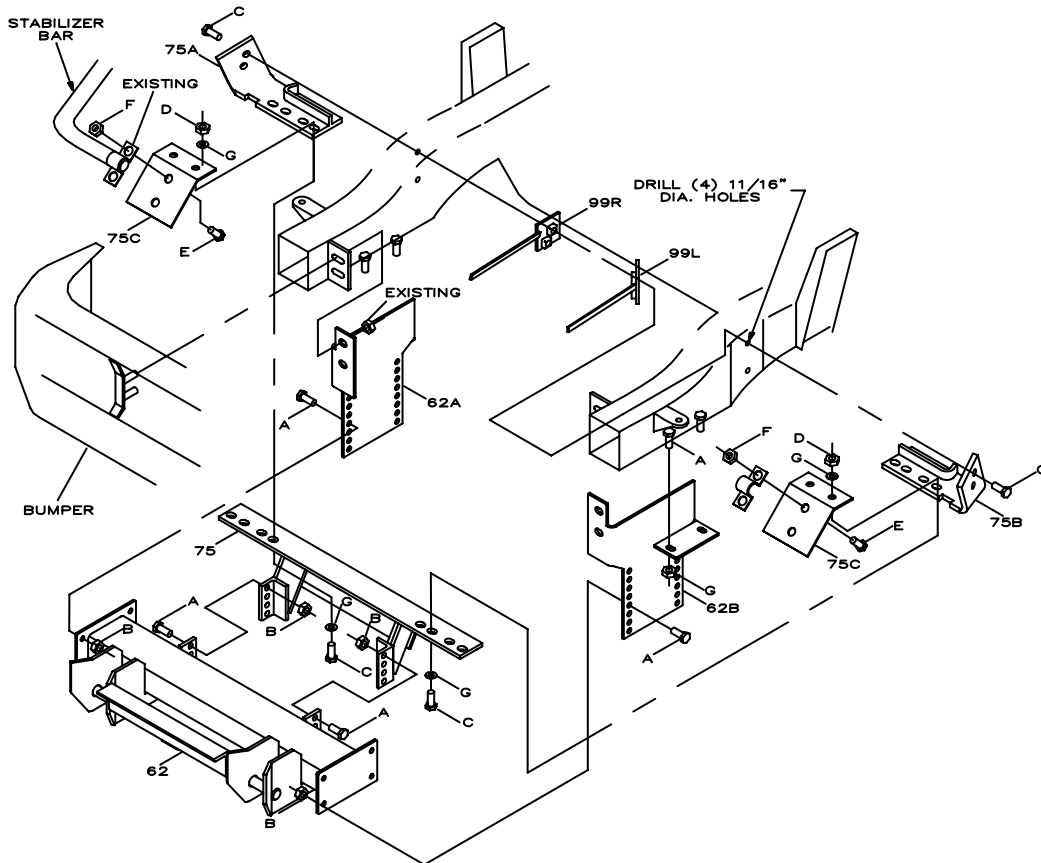

Figure 1
1. Remove the front bumper. If the truck is equipped with a front stabilizer bar, remove the stabilizer frame mounts, allowing the stabilizer bar to hang freely. The stabilizer bar will be reattached later. Position the push beam support plates (Ref. 62A and 62B, Fig. 1) to the front frame rails of the truck. Using the ½" – 13 x 1- ½" bolts, ½" self locking nuts, and ½" flat washers provided, bolt the PUSH BEAM SUPPORT PLATES in place (see Fig. 1). Fasteners should only be finger tight.
2. Bolt the PUSH BEAM (Ref. 62, Fig. 1) in place as shown using ½" – 13 x 1- ½" hex head bolts and self locking nuts provided.
3. Attach the RIGHT FRAME MOUNT (Ref. 75A, Fig. 1) and the LEFT FRAME MOUNT (Ref. 75B, Fig. 1) to the vehicle frame using 5/8" – 11 x 2" hex head bolt and NUT PLATES (Ref. 99R and 99L, Fig. 1)